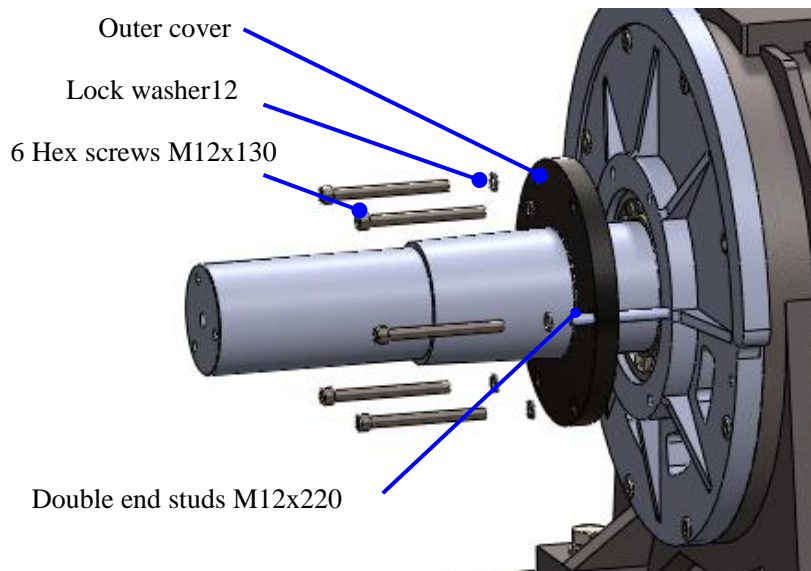

Figure 138: Install Outer cover
8. Then install the Outer cover on the Front cover through the double end studs; install hex screws M12x130 with lock washer12. See Figure 138.